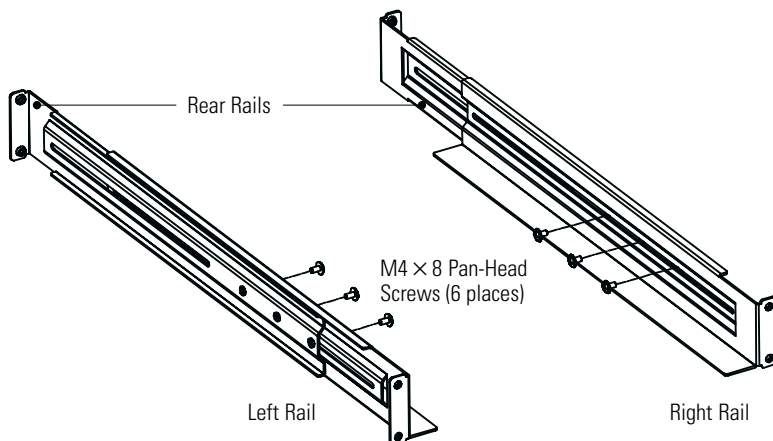

Figure 4. Assembling the Rails
1. Assemble the left and right rails to the rear rails as shown in Figure 4. Do not tighten the screws.